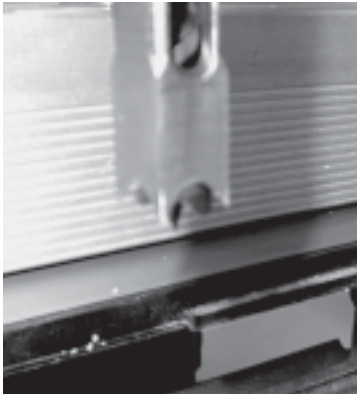

Figure 5
8. Loosen the setscrew in the attachment that holds adjustable sleeve in the attachment. Raise the adjustable sleeve 1/32" to provide clearance between the bit and chisel, as shown in Figure 5. Lock adjustable sleeve in casting by tightening the setscrew.